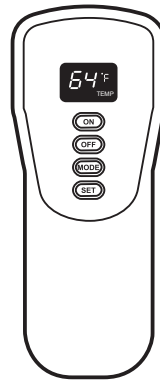

Figure 24 - Remote Control
1. Place the slide switch on the receiver in the remote position (see Figure 24).
4. Press the ON button on the remote control to light the burner (see Figure 24). You will hear a series of beeps. This will also "learn", or program, the remote and the receiver.
The factory setting for temperature is °F. To change this setting to °C, press the ON key and the OFF key on the remote control at the same time (see Figure 24, page 21). This will change from °F to °C. Follow this same procedure to change from °C back to °F.